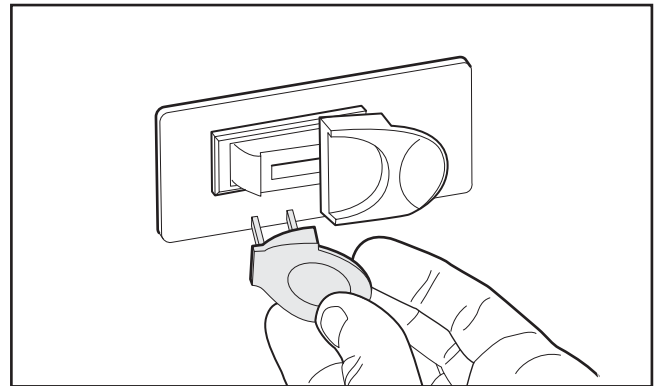

Figure 30. Removing switch key from paddle switch.
19. Remove switch disabling key, as shown in **Figure 30**.